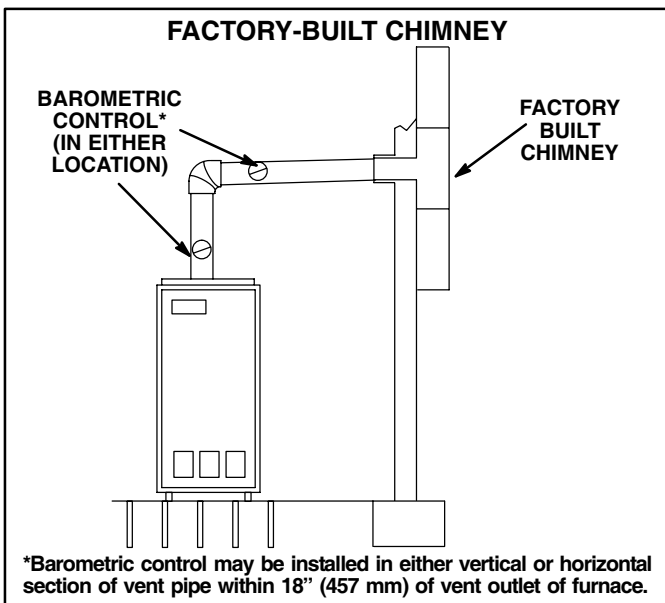

FIGURE 19
- 15- All vent pipe run through unconditioned areas or outside shall be constructed of factory built chimney sections. See figure 19.